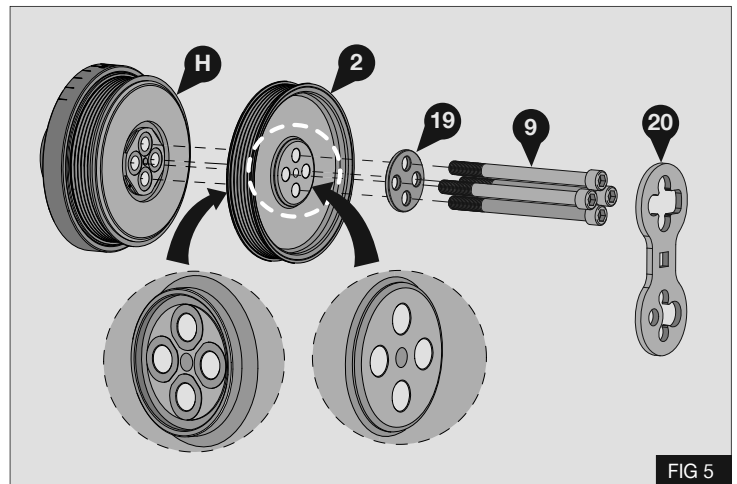

FIG 5
6. Fit the supplied crankshaft pulley (3) onto the existing crank pulley (H) using the supplied bolts (9) with crank washer (19) - Fig 5
7. Torque the M12x150 bolts (9) using the two stage procedure listed below. Use the correct end of tool (20) as a counter-hold.